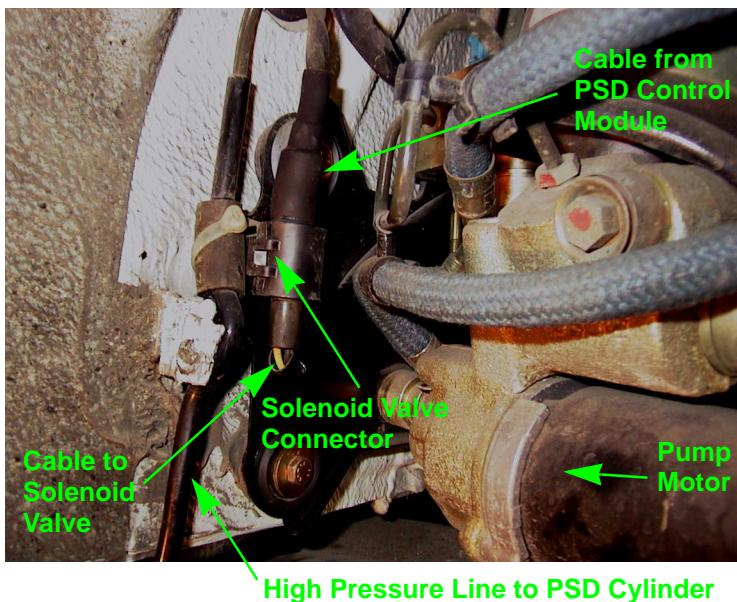

FIGURE 2
11. Unplug the control unit from the PSD lock solenoid valve. The connector is located at the left end of the PSD pump/accumulator unit (as you are facing the PSD unit from the left wheel well). See "Figure 2" on page 4..